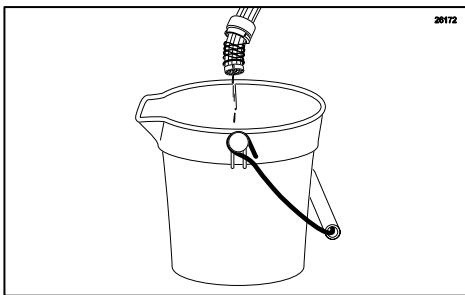

Figure 56
- Place the end of the 9-Tube Assembly into a container to catch the expelled syrup and sanitizer solution during the Clean-In-Place procedure. (See Figure 56.)